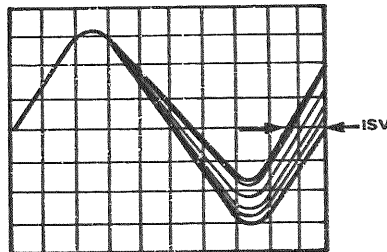

Figure 4-2. ISV Waveform
- 6) ISV appears as the width of the scope trace, as shown in Figure 4-2. The maximum allowable range of ISV is 6% of the overall width of one cycle of the waveform.